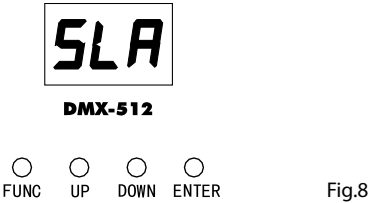

Fig.8
- Press the button FUNC so many times until the display shows [SLA] (fig.8).